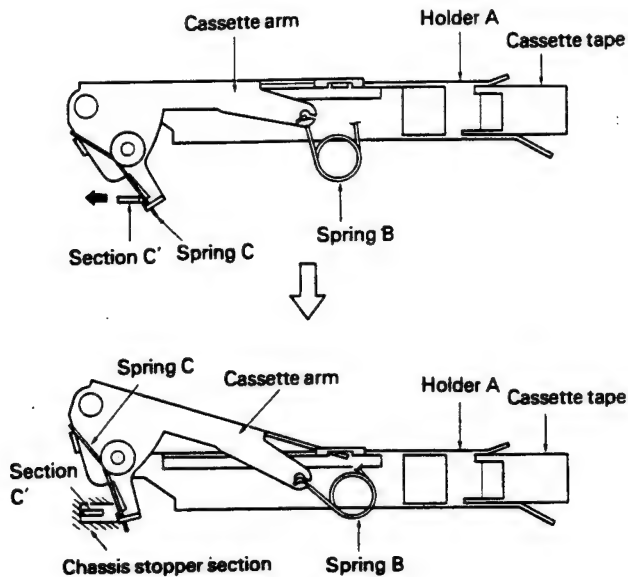

Fig. 14
6. As shown in Fig. 14, the "C" unit of arm "C" connects to the cassette arm (which suspends the cassette tape) through spring "C". The arm "C" movement described above in paragraph five makes the "C" unit move in the direction indicated by the arrow in Fig. 14. The cassette arm pushes down holder "A" by means of spring "B". The "C" unit is released when holder "A" drops down.